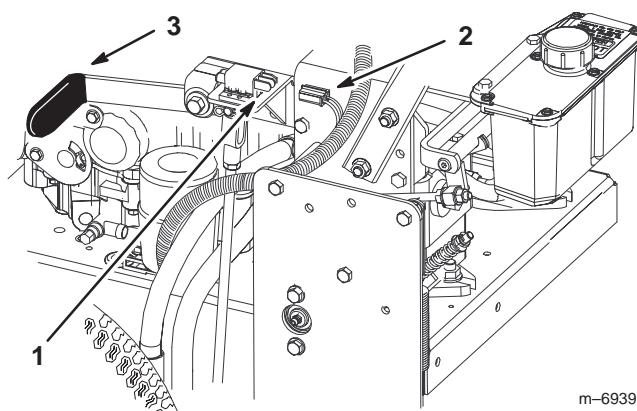

Figure 29
5. If the machine has a parking brake lever shown in Figure 29, connect the harness parking brake connector to the parking brake switch (Fig. 29).
6. If there is no parking brake lever shown in Figure 29, install the jumper wire onto the harness parking brake connector (Fig. 29).